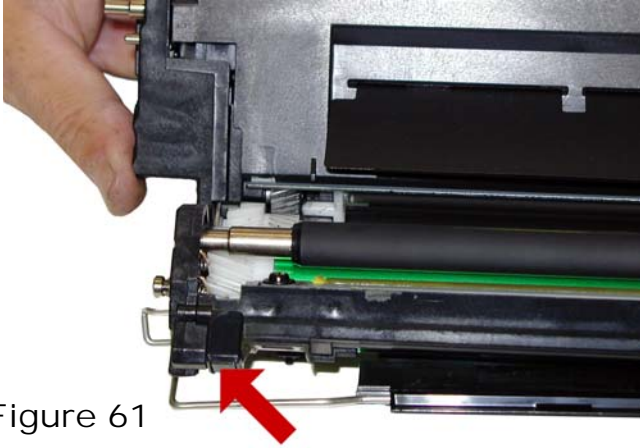

Figure 61
39) Install the waste chamber. Install the left side tabs first. See **Figure 61**